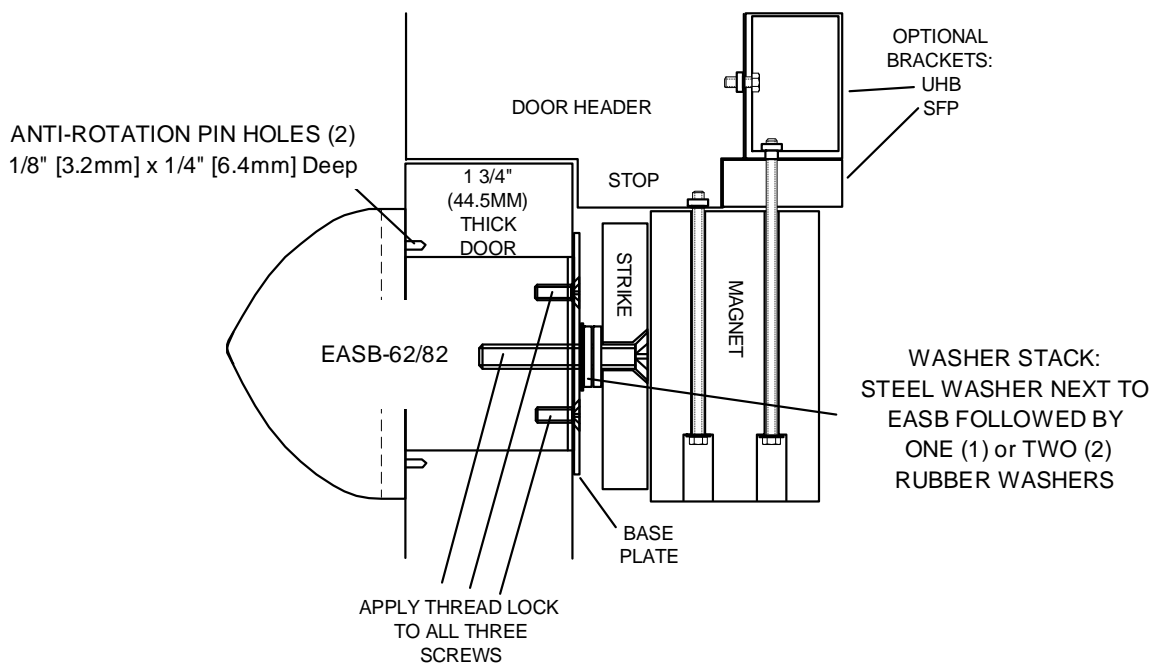

Figure 2
Locate and mark the position of the EASB-62/82 on the door. The strike location is determined by the center position of the lock face. Drill through the door using a 2" [50.8mm] Drill or Hole Saw. Remove the two (2) screws and Base Plate from the front of the main housing. Insert the main housing through the door until the anti-rotation pins touch the door face. Place a protective material over the crown of the housing, to prevent damage to the housing, tap with a hammer to make center mark drilling locations in the door for the anti-rotation pins. Remove the main housing from the door and drill the two (2) holes using a 1/8" [3.2mm] drill approximately 1/4" [6.4mm] deep. *Note: See Figure 2 for a concept of a completed installation.*
Reinstall the base plate back and two (2) mounting screws onto the housing using the thread locker compound provided. Tighten thoroughly using a Phillips screwdriver. Install the strike assembly hardware as shown in Figure 2 and the *Magnalock Installation Manual*.